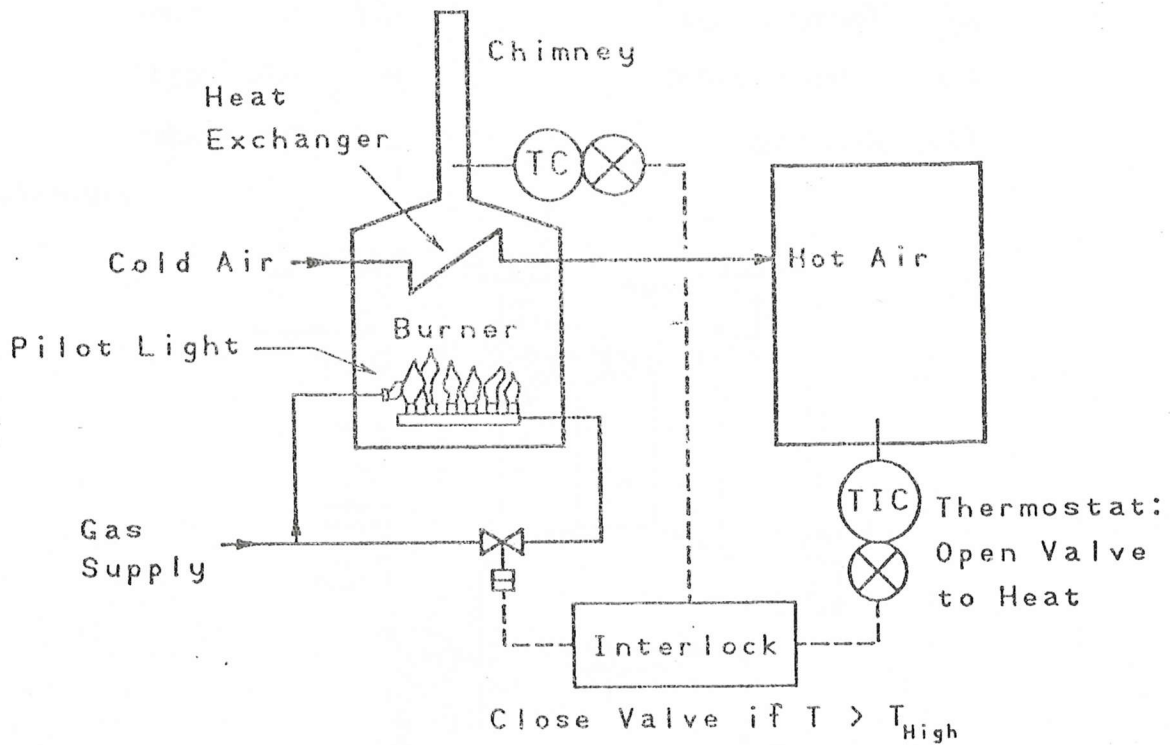

Figure Q. 6
6. Figure Q. 6 shows a schematic diagram of a gas-fired furnace that is commonly used for heating process. The hot combustion gases pass through a heat exchanger to heat fresh air for space heating. The gas flow is controlled by an electric solenoid valve connected to a thermostat. The gas is ignited by a pilot light flame. A high temperature switch shuts off all gas in the event of high temperature.